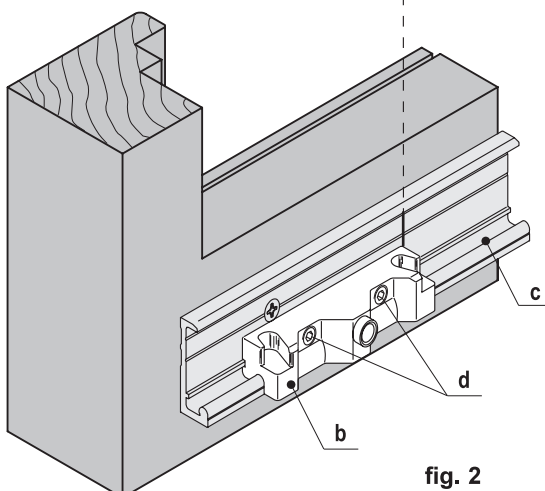
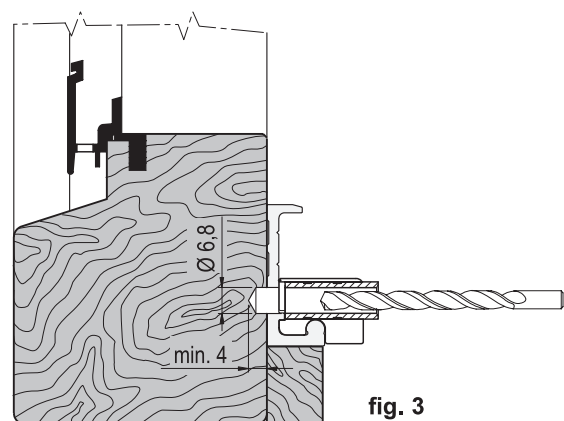

fig. 2
fig. 3
- 2) Slide the jig art. M02030.00.06 (b) on the rail (c) up to the reference mark (fig. 2), fasten the dowels temporarily (d), test the closing of the sliding sash making sure that the overlap of the sash on the frame is correct. Now drill using a 6.8 mm bit (fig. 3).